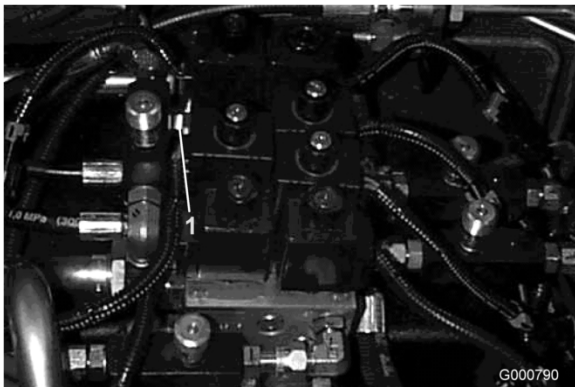
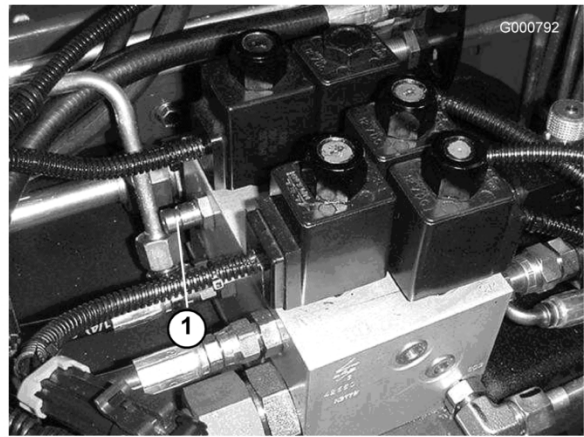

Figure 66
Figure 67
1. Test Port A (Figure 66 and Figure 67) is used to assist in trouble shooting the hydraulic circuit for the lift cylinders.